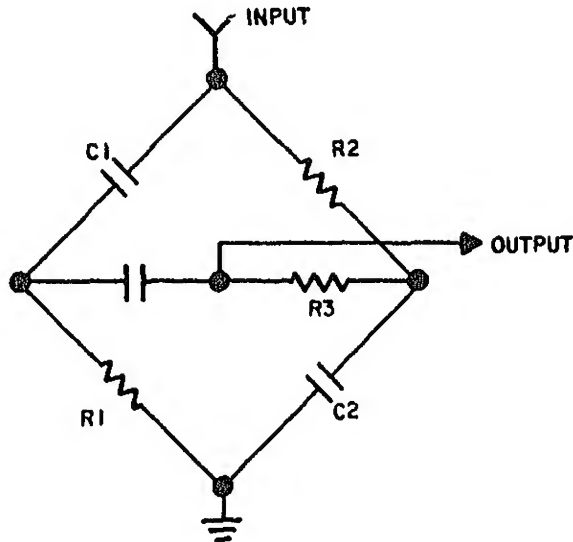

Figure 1
1. This discussion concerns the operation of a twin-T filter. This filter is sometimes referred to as a band-rejection filter. It has the characteristic of rejecting a narrow band of frequencies. The twin-T filter consists of a high-pass T filter and a low-pass T filter in parallel as illustrated in Figure 1.